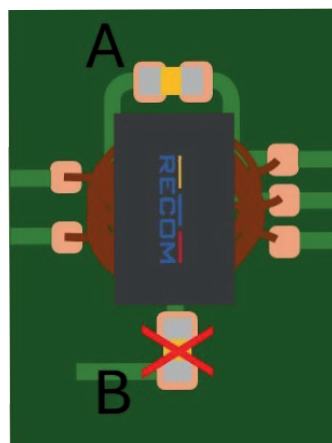

Figure 9: Pads on a small component must be parallel (A) to the heavy component, not perpendicular (B)
While capacitors and diodes often need to be placed as close as possible to a power component or transformer, thermal effects must be considered during placement. The heat soaking capability of larger components, especially transformers or power components with thermal pads, can significantly affect solderability. As shown in Figure 9, passives must be placed with both solder pads at the same distance, as in Figure 9A. Placing the parts perpendicular (B) may lead to tombstoning or cold solder joints.